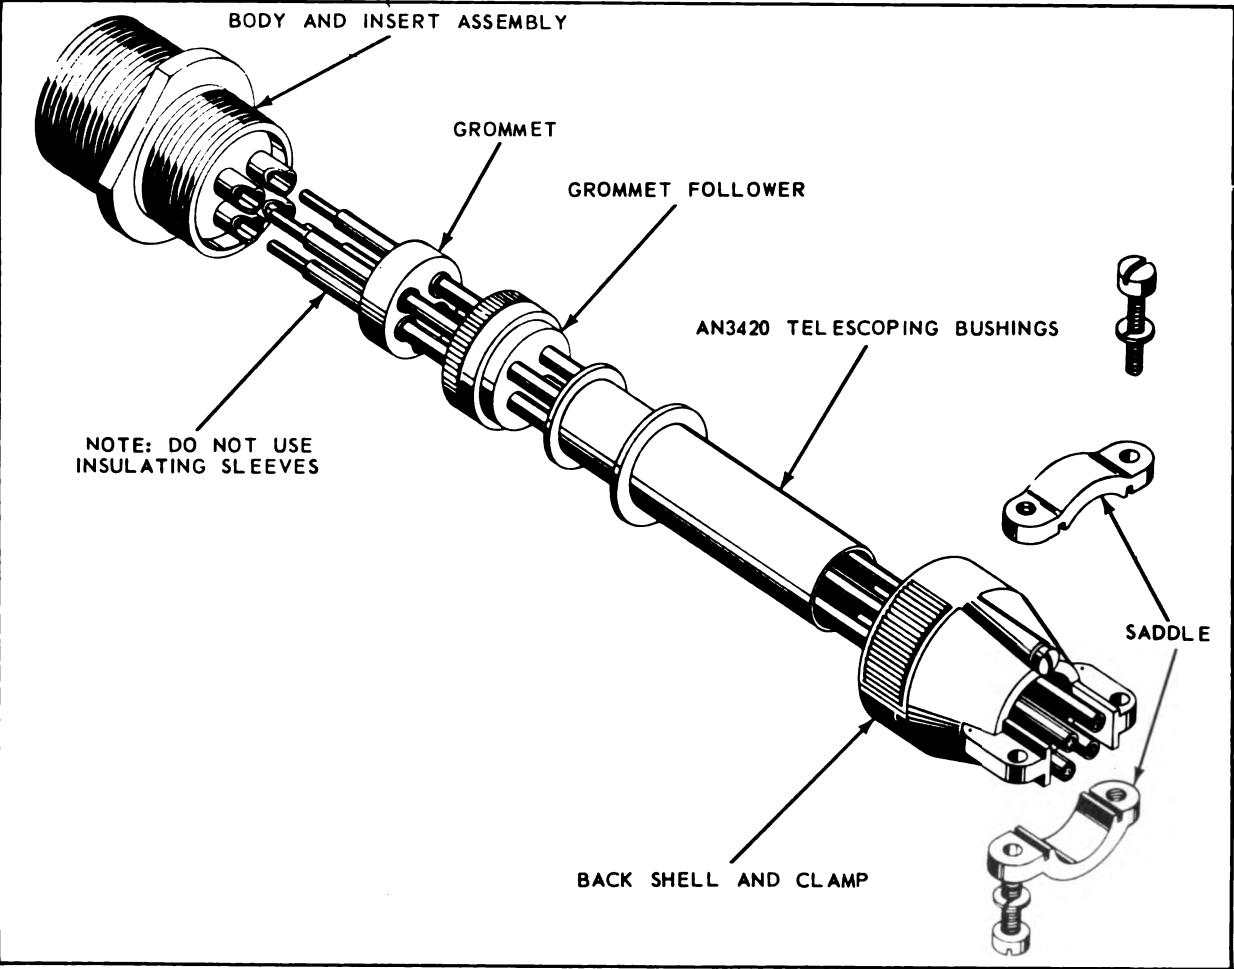

Figure 3-65. Installation of Cannon Class E Connector
3-71. CANNON MS CLASS E CONNECTORS. Install Cannon Class E connectors as follows: (See figure 3-65)
- c. Thread pre-tinned wires through grommet follower and through grommet. Note relationship of grommet follower and grommet in figure 3-65.